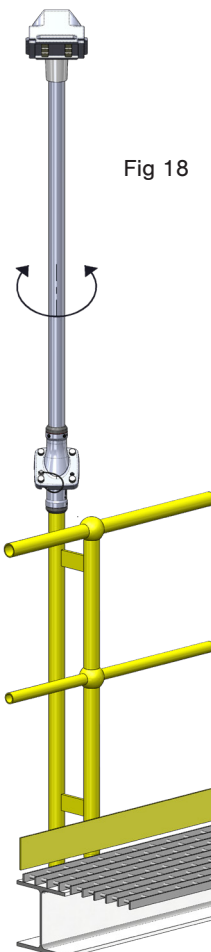

Fig 18
- ☐ If adjustment is required, loosen the top grub screws and rotate the pole top. (Fig 18)